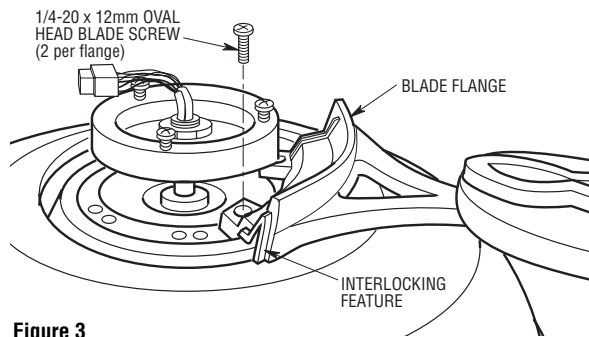

Figure 3
- Attach the blade/flange assembly using two 1/4-20 x 12mm oval head screws (Figure 3). Install the remaining four fan blades assemblies using the same procedure.